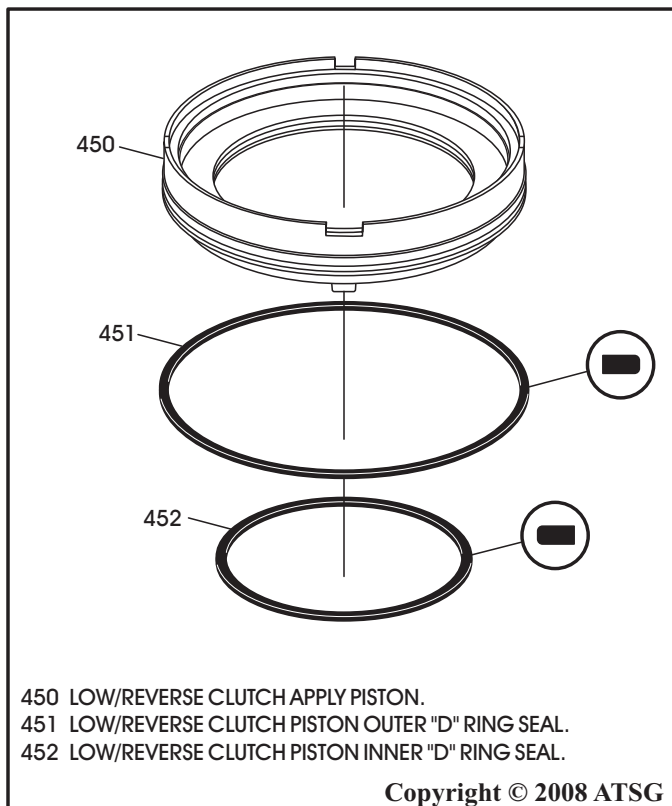

Figure 113
4. Install new inner "D" ring seal into the groove in low/reverse piston, as shown in Figure 113.
5. Install new outer "D" ring seal into the groove in low/reverse piston, as shown in Figure 113.